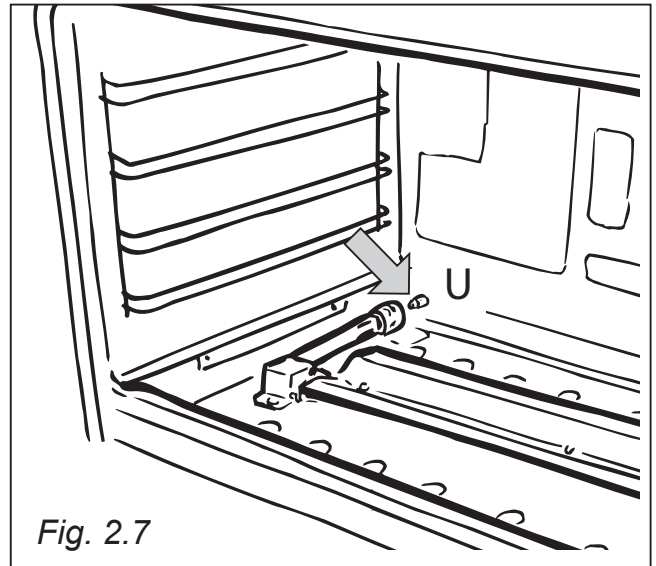

Fig. 2.7
- Withdraw the burner in the manner shown in figure 2.7 and rest it inside the oven. Take care not to damage the wire to the ignition electrode and the safety valve probe.
- Using a 10 mm box spanner, unscrew the injector “U” (indicated by the arrow in fig. 2.7) and replace with a new injector selected in accordance with the “Table for the choice of the injectors”; then replace the burner repeating the above steps in reverse order.